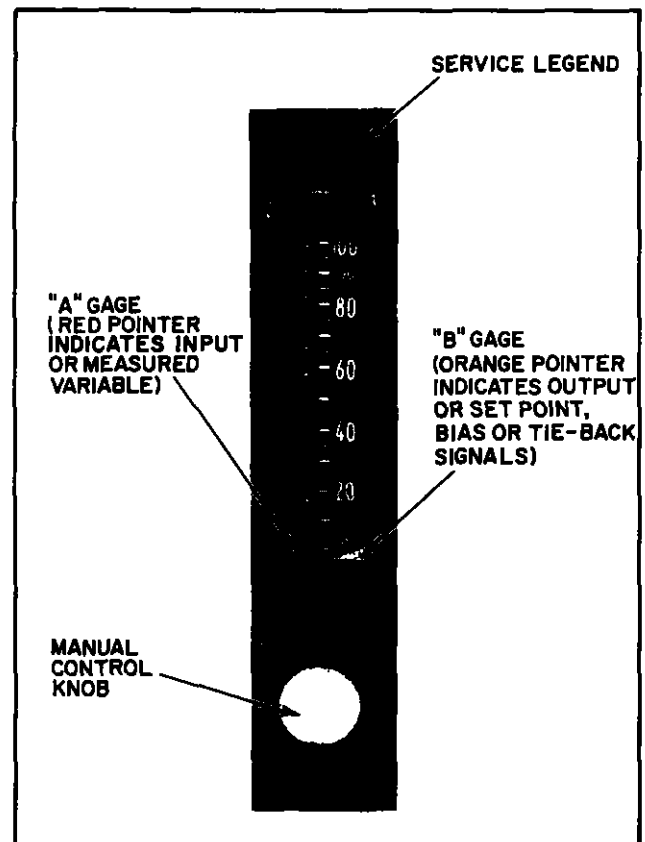

FIGURE 4 – Type FL Manual Loading Station
- 3 Adjust manual control knob on front plate (Figure 4) until desired output is indicated on vertical gage